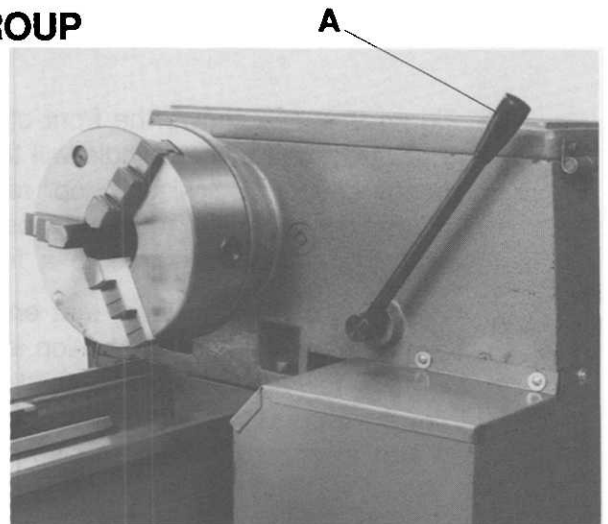

Figure 8
1. "A" in Figure 8 is the *belt tension lever*. This lever positions the intermediate pulleys on the drive line. Shifting the lever rearward tightens the belts; shifting forward loosens them. Generally, it is good practice to keep the belts untensioned when you're not using the lathe.